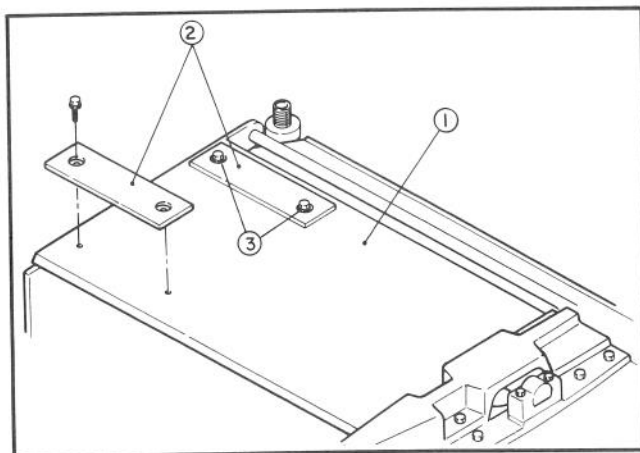

Figure 3
- C. Install two tipper plates to the front L.H. or #2 cutting unit and the front R.H. or #3 cutting units using capscrews that come with the tipper plates (Fig. 3). Discard the original cover screws that came on the cutting unit.